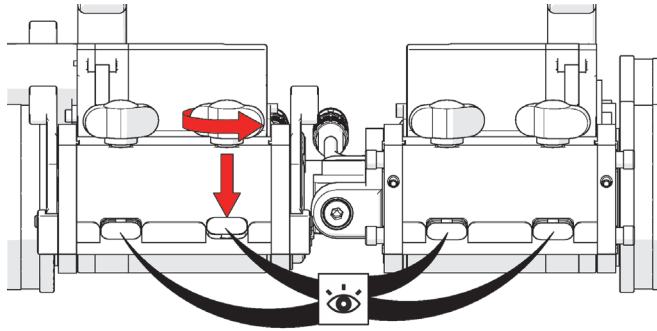

Figure 2-6 Align dovetail jaws
5. Alternatively, accessories can also be mounted directly to the swivel mount. Rotate the black wing knobs, aligning the dovetail jaws with the mount's grooves (see Figure 2-6 on page 54).